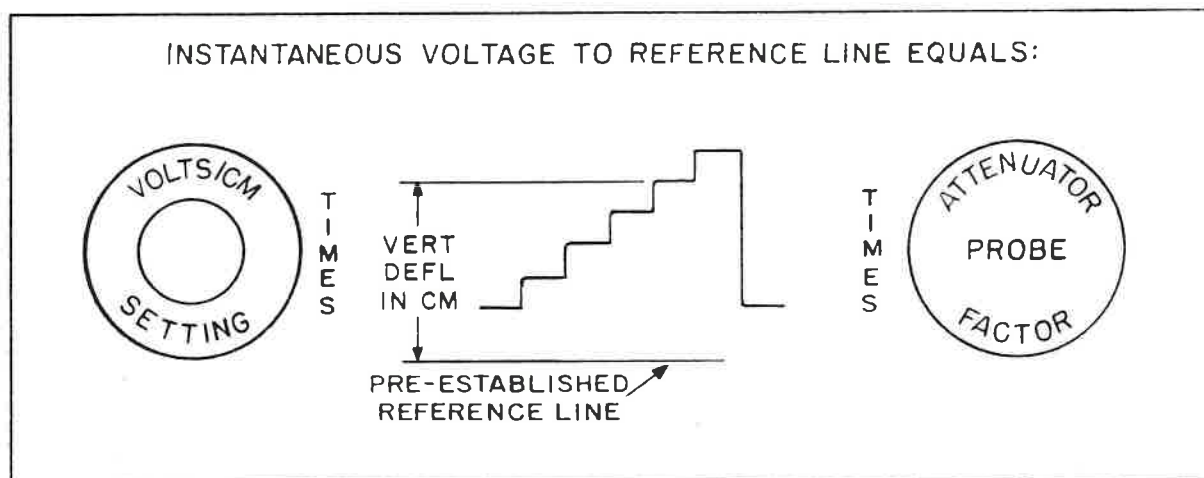

Figure 3-3. Instantaneous Voltage Measurement with Respect to Ground (or Some Other Reference Potential)
6. Using the calibrator scale, measure the vertical deflection in centimeters from the desired point on the waveform to the pre-established reference line set up in step 3. See Figure 3-3.